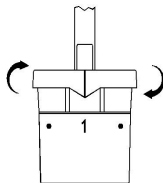

Figure 3
4. To entrap the first polyp, rotate the jar and align the arrow with the “1” chamber. Suction through the endoscope using standard endoscopic technique until the excised polyp is entrapped in the chamber retrieval strainer (See Figure 3).n-sterile.